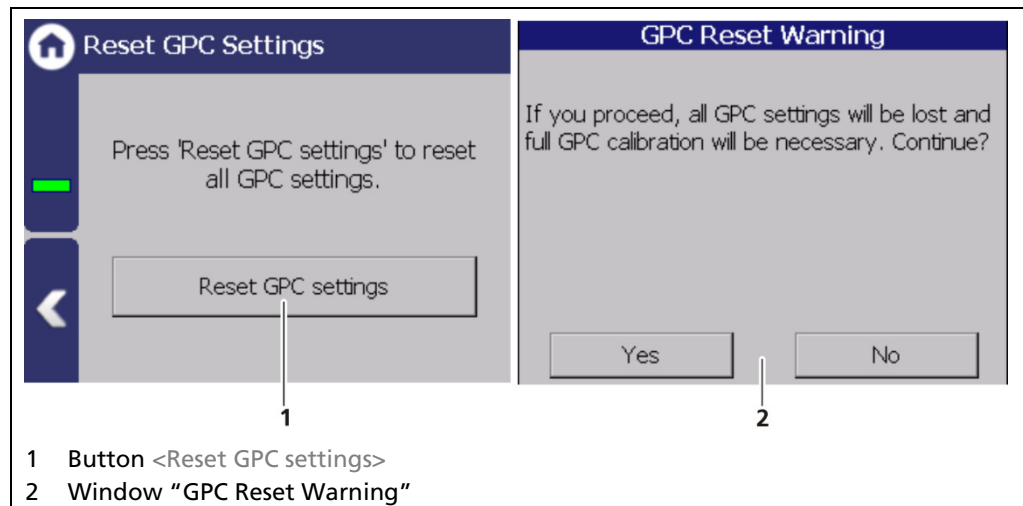

Fig. 99 Reset GPC Settings
1. Click on the button <Reset GPC settings> (Fig. 99, item 1).
► A confirmation message (Fig. 99, item 2) appears.